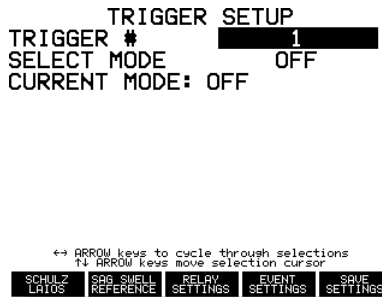

Figure 7.1: Initial Trigger Setup
1. From any screen, press the SETUP key, then select 7- Trigger Setup from the number keypad. You should see a screen similar to that shown in Figure 7.1.